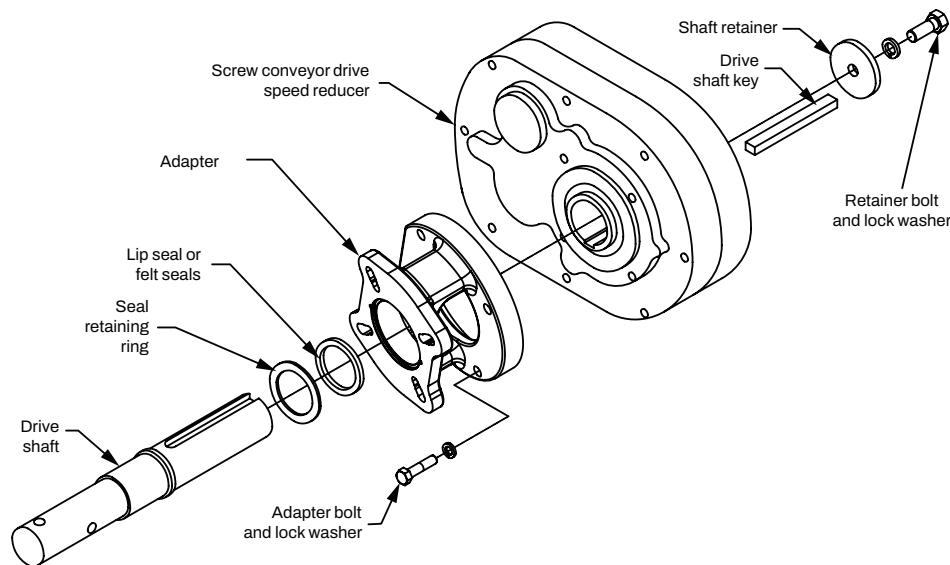

Figure 1 - Assembly
2. Position adapter on reducer output hub so that small end (end with 12 holes) rests on reducer. Select the 4 mounting holes to match the shaft used (see Fig. 1).
2. Position adapter on reducer output hub so that small end (end with 12 holes) rests on reducer. Select the 4 mounting holes to match the shaft used. See Fig. 1.